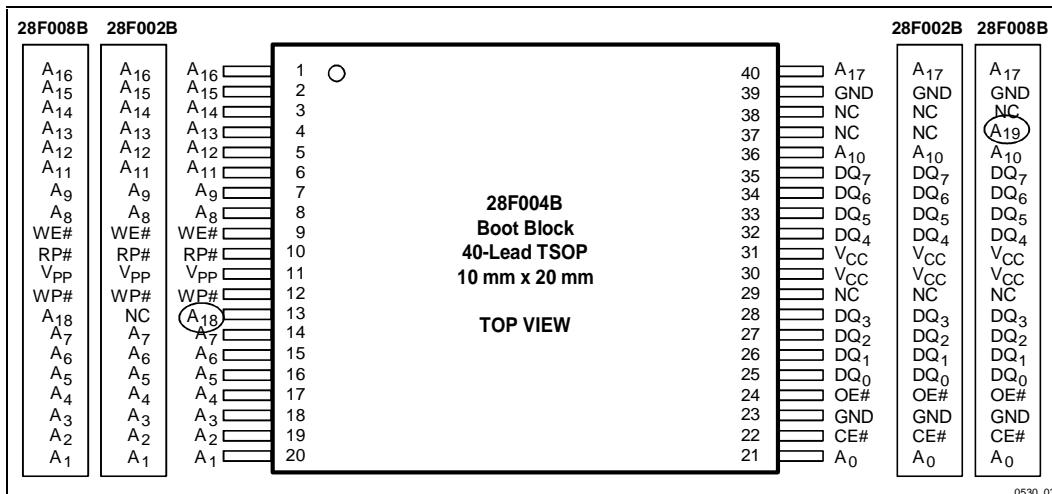
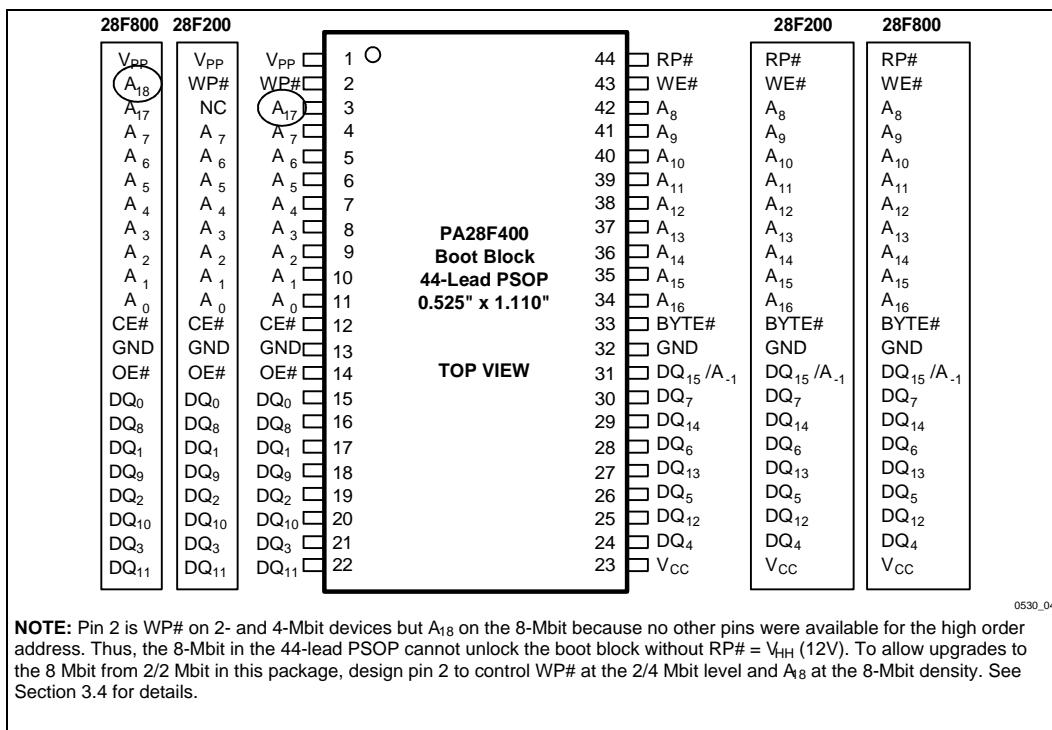
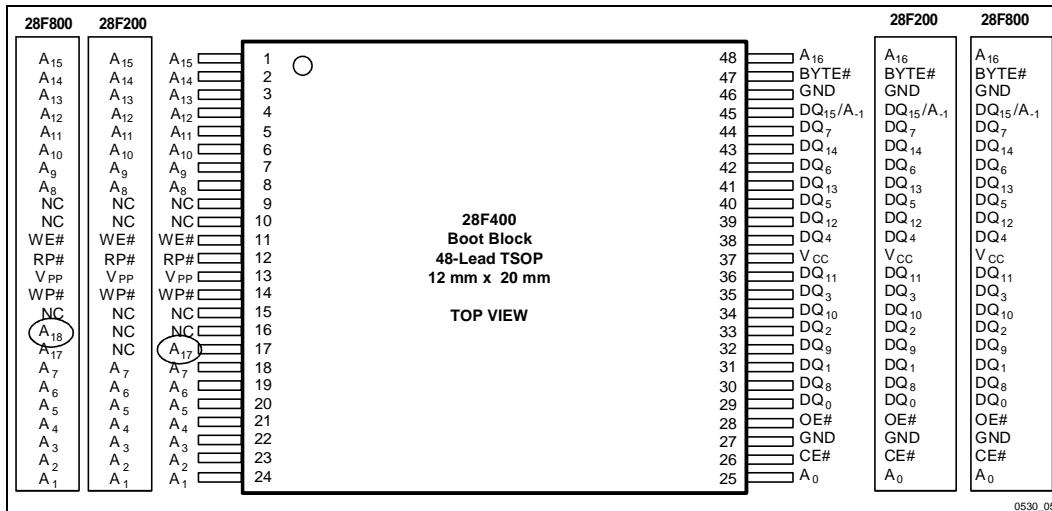
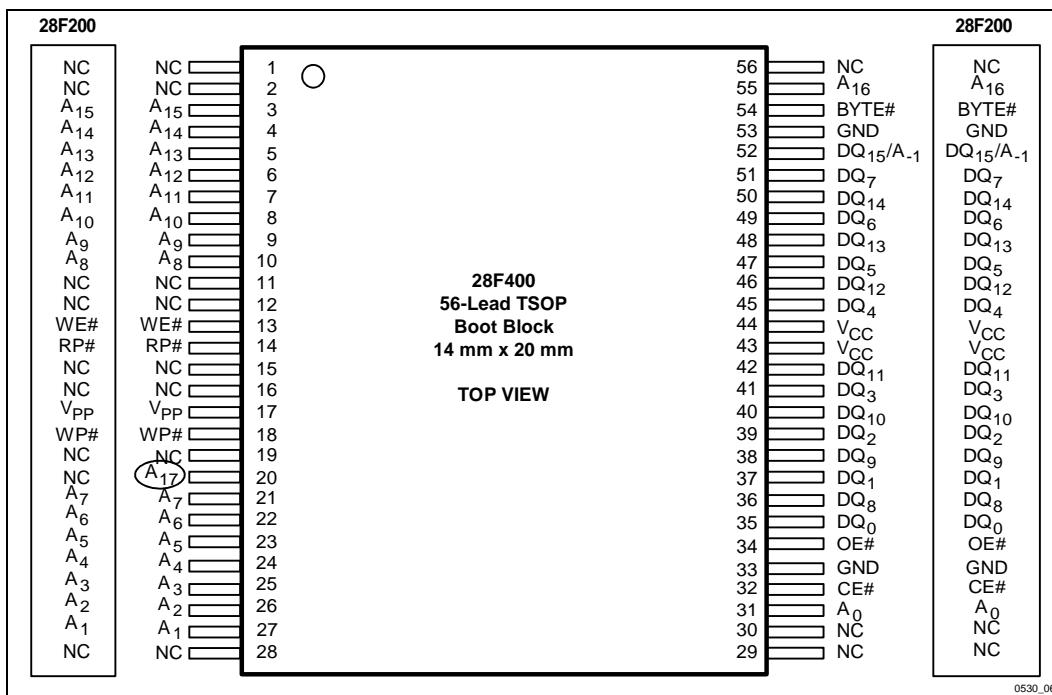

Figure 3. The 40-Lead TSOP Offers the Smallest Form Factor for Space-Constrained Applications
Figure 4. The 44-Lead PSOP Offers a Convenient Upgrade from JEDEC ROM Standards
Figure 5. The 48-Lead TSOP Offers the Smallest Form Factor for x16 Operation
Figure 6. The 56-Lead TSOP Offers Compatibility between 2 and 4 Mbits
-002	<p>Status changed from Product Preview to Preliminary 28F400CV/CE/BE references and information added throughout. 2.7V CE/BE specs added throughout.</p> <p>The following sections have been changed or rewritten: 1.1, 3.0, 3.2.1, 3.2.2, 3.3.1, 3.3.1.1, 3.3.2, 3.3.2.1, 3.3.3, 3.3.4, 3.6.2.</p> <p>Note 2 added to Figure 3 to clarify 28F008B pinout vs. 28F008SA.</p> <p>Sentence about program and erase WSM timeout deleted from Section 3.3.3, 3.3.4.</p> <p>Erroneous arrows leading out of error states deleted from flowcharts in Figs. 9, 10.</p> <p>Sections 5.1, 6.1 changed to “Applying V_{CC} Voltages.” These sections completely changed to clarify V_{CC} ramp requirements.</p> <p>I_{PPD} 3.3V Commercial spec changed from 10 to 5 μA.</p> <p>Capacitance tables added after commercial and extended DC Characteristics tables.</p> <p>Test and slew rate notes added to Figs. 12, 13, 19, 20, 21.</p> <p>Test configuration drawings (Fig. 14, 22) consolidated into one, with component values in table. (Component values also rounded off).</p> <p>t_{ELFL}, t_{ELFH}, t_{AVFL} changed from 7 to 5 ns for 3.3V BV-60 commercial and 3.3V TBV-80 extended, 10 to 5 ns for 3.3V BV-80 and BV-120 commercial.</p> <p>t_{WHAX} and t_{EHAX} changed from 10 to 0 ns.</p> <p>t_{PHWL} changed from 1000 ns to 800 ns for 3.3V BV-80, BV-120 commercial.</p> <p>t_{PHEL} changed from 1000 ns to 800 ns for 3.3V BV-60, BV-80, and BV-120 commercial.</p>
The 28F400 products are available in a ROM/EPROM-compatible pinout and housed in the 44-lead PSOP (Plastic Small Outline) package, the 48-lead TSOP (Thin Small Outline, 1.2 mm thick) package and the 56-lead TSOP as shown in Figures 4, 5 and 6, respectively. The 28F004 products are available in the 40-lead TSOP package as shown in Figure 3.
Intel's SmartVoltage Boot Block architecture provides upgrade paths in every package pinout to the 8-Mbit density. The 28F004B 40-lead TSOP pinout for space-constrained designs is shown in Figure 3. The 28F400 44-lead PSOP pinout follows the industry-standard ROM/EPROM pinout, as shown in Figure 4. For designs that require x16 operation but have space concerns, refer to the 48-lead pinout in Figure 5. Furthermore, the 28F400 56-lead TSOP pinout shown in Figure 6 provides density upgrades to future higher density boot block memories.
This product family features an asymmetrically-blocked architecture providing system memory integration. Each erase block can be erased independently of the others up to 100,000 times for commercial temperature or up to 10,000 times for extended temperature. The block sizes have been chosen to optimize their functionality for common applications of nonvolatile storage. The combination of block sizes in the boot block architecture allow the integration of several memories into a single chip. For the address locations of the blocks, see the memory maps in Figures 4 and 5.